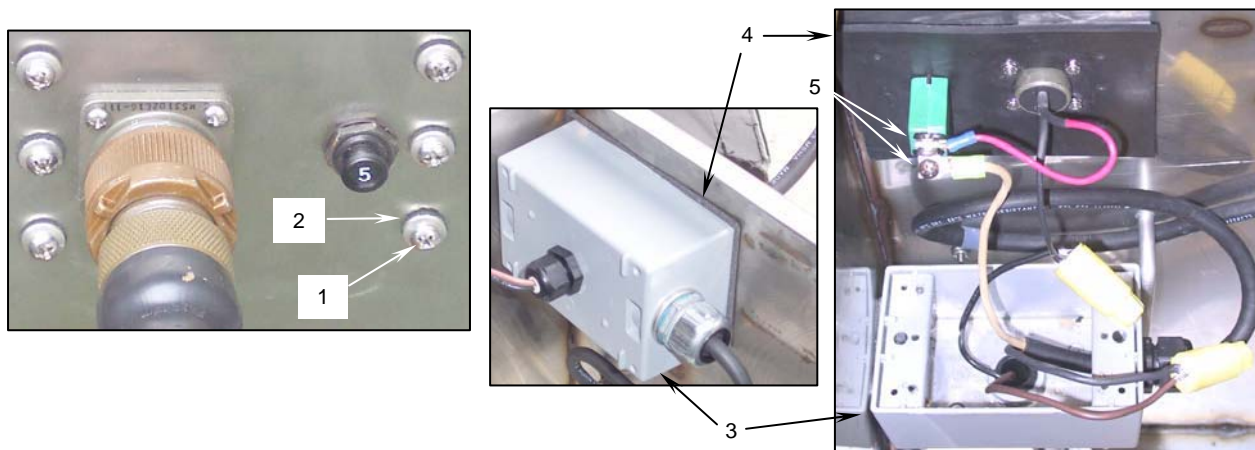

Figure 1. Testing the Grease Separator Circuit Breaker.
2. Remove the six machine screws (**Figure 1, item 1**) and sealing washers (**Figure 1, item 2**) that secure the weatherproof box (**Figure 1, item 3**) to the wall of the grease separator.
3. Carefully pull the box away from the wall, taking care not to damage the gasket (**Figure 1, item 4**).
4. With the breaker reset button pushed in, place the multimeter test probes on the two terminals at the back of the breaker (**Figure 1, item 5**). The multimeter should read zero.
- a. Apply sealing compound to the threads of the six machine screws (**Figure 1, item 1**).
- b. Position the weatherproof box (**Figure 1, item 3**) on the gasket (**Figure 1, item 4**) and the wall of the grease separator and secure with the six sealing washers (**Figure 1, item 2**) and machine screws (**Figure 1, item 1**).